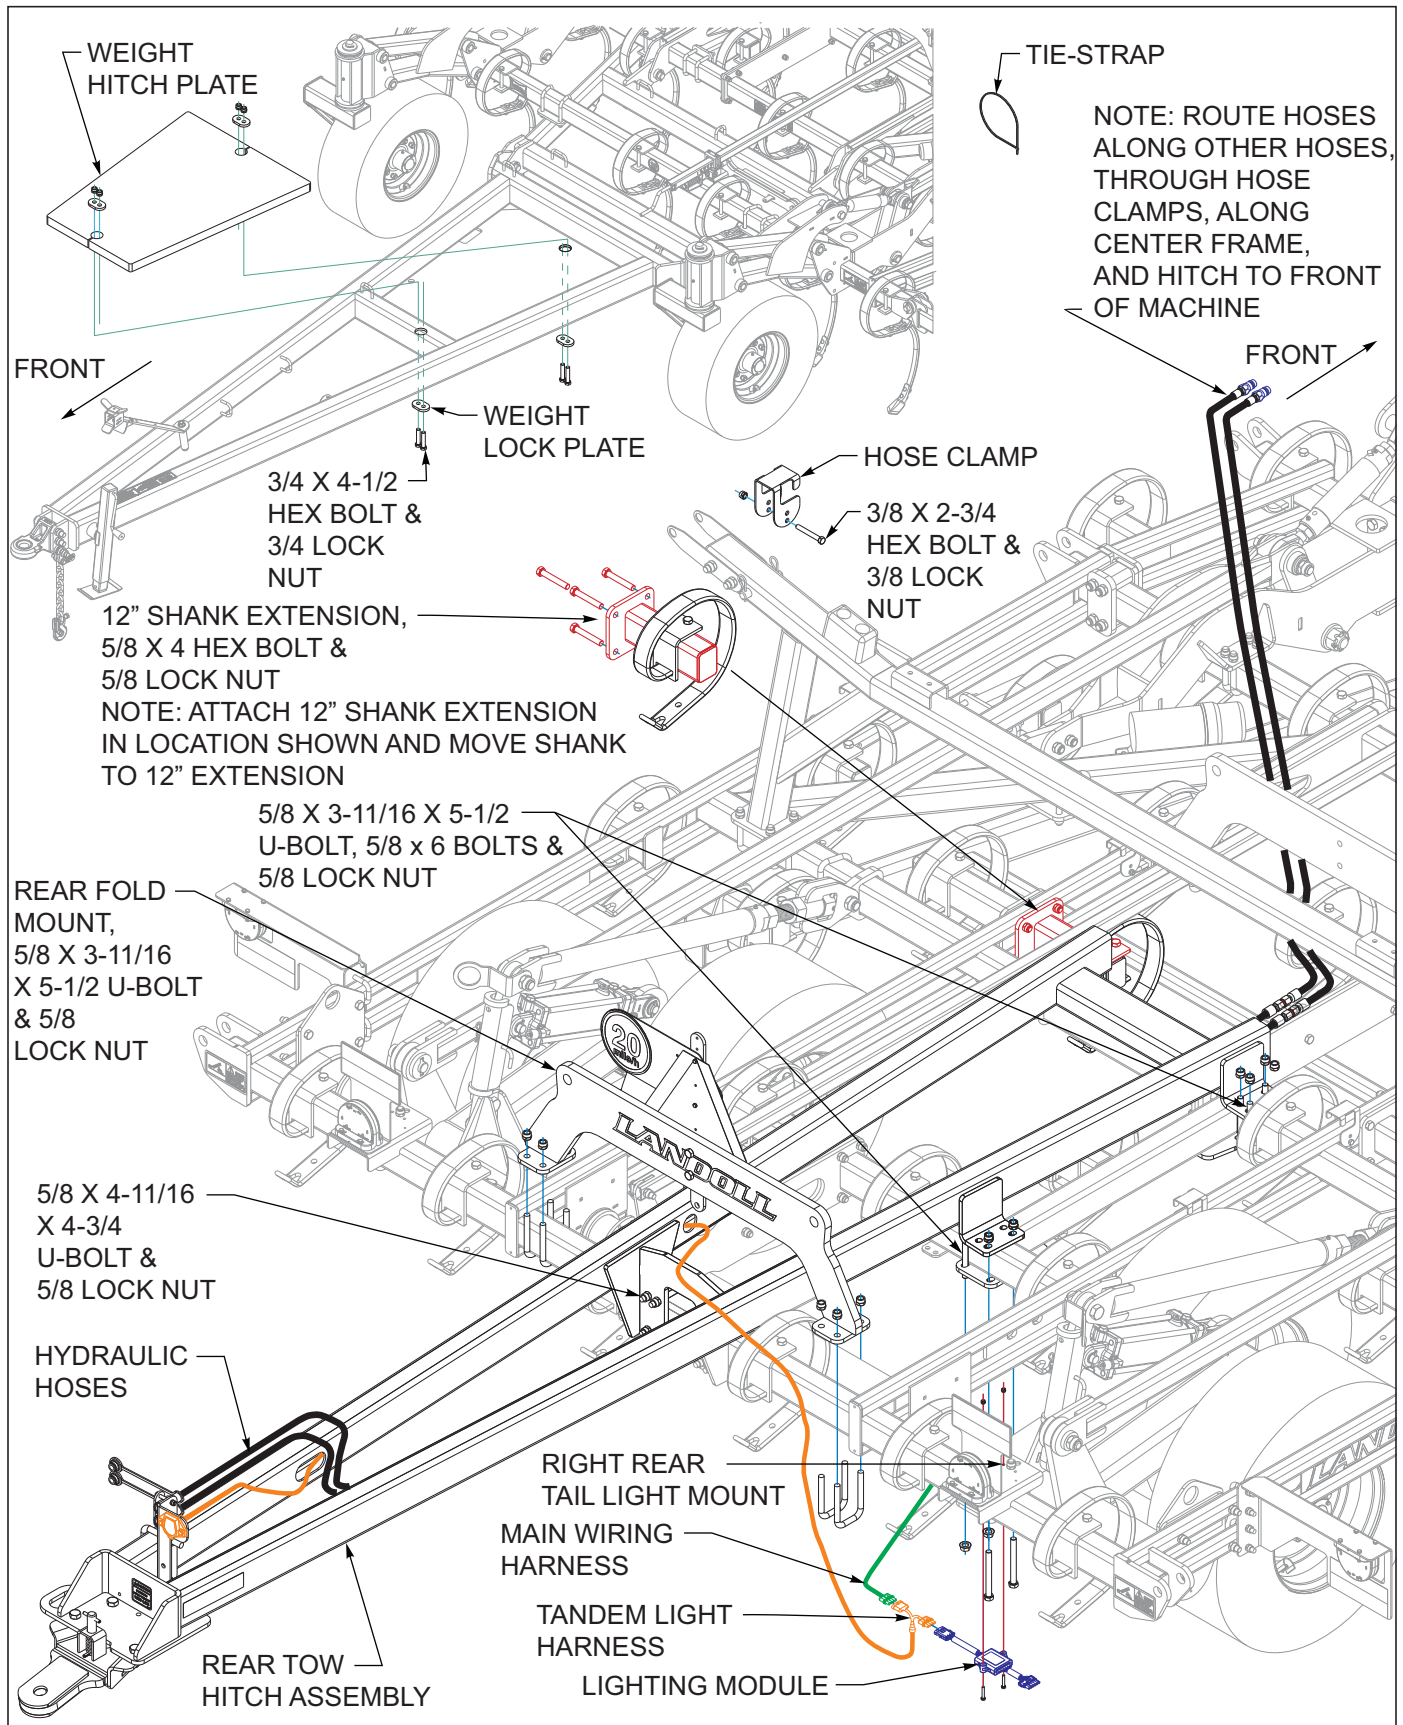
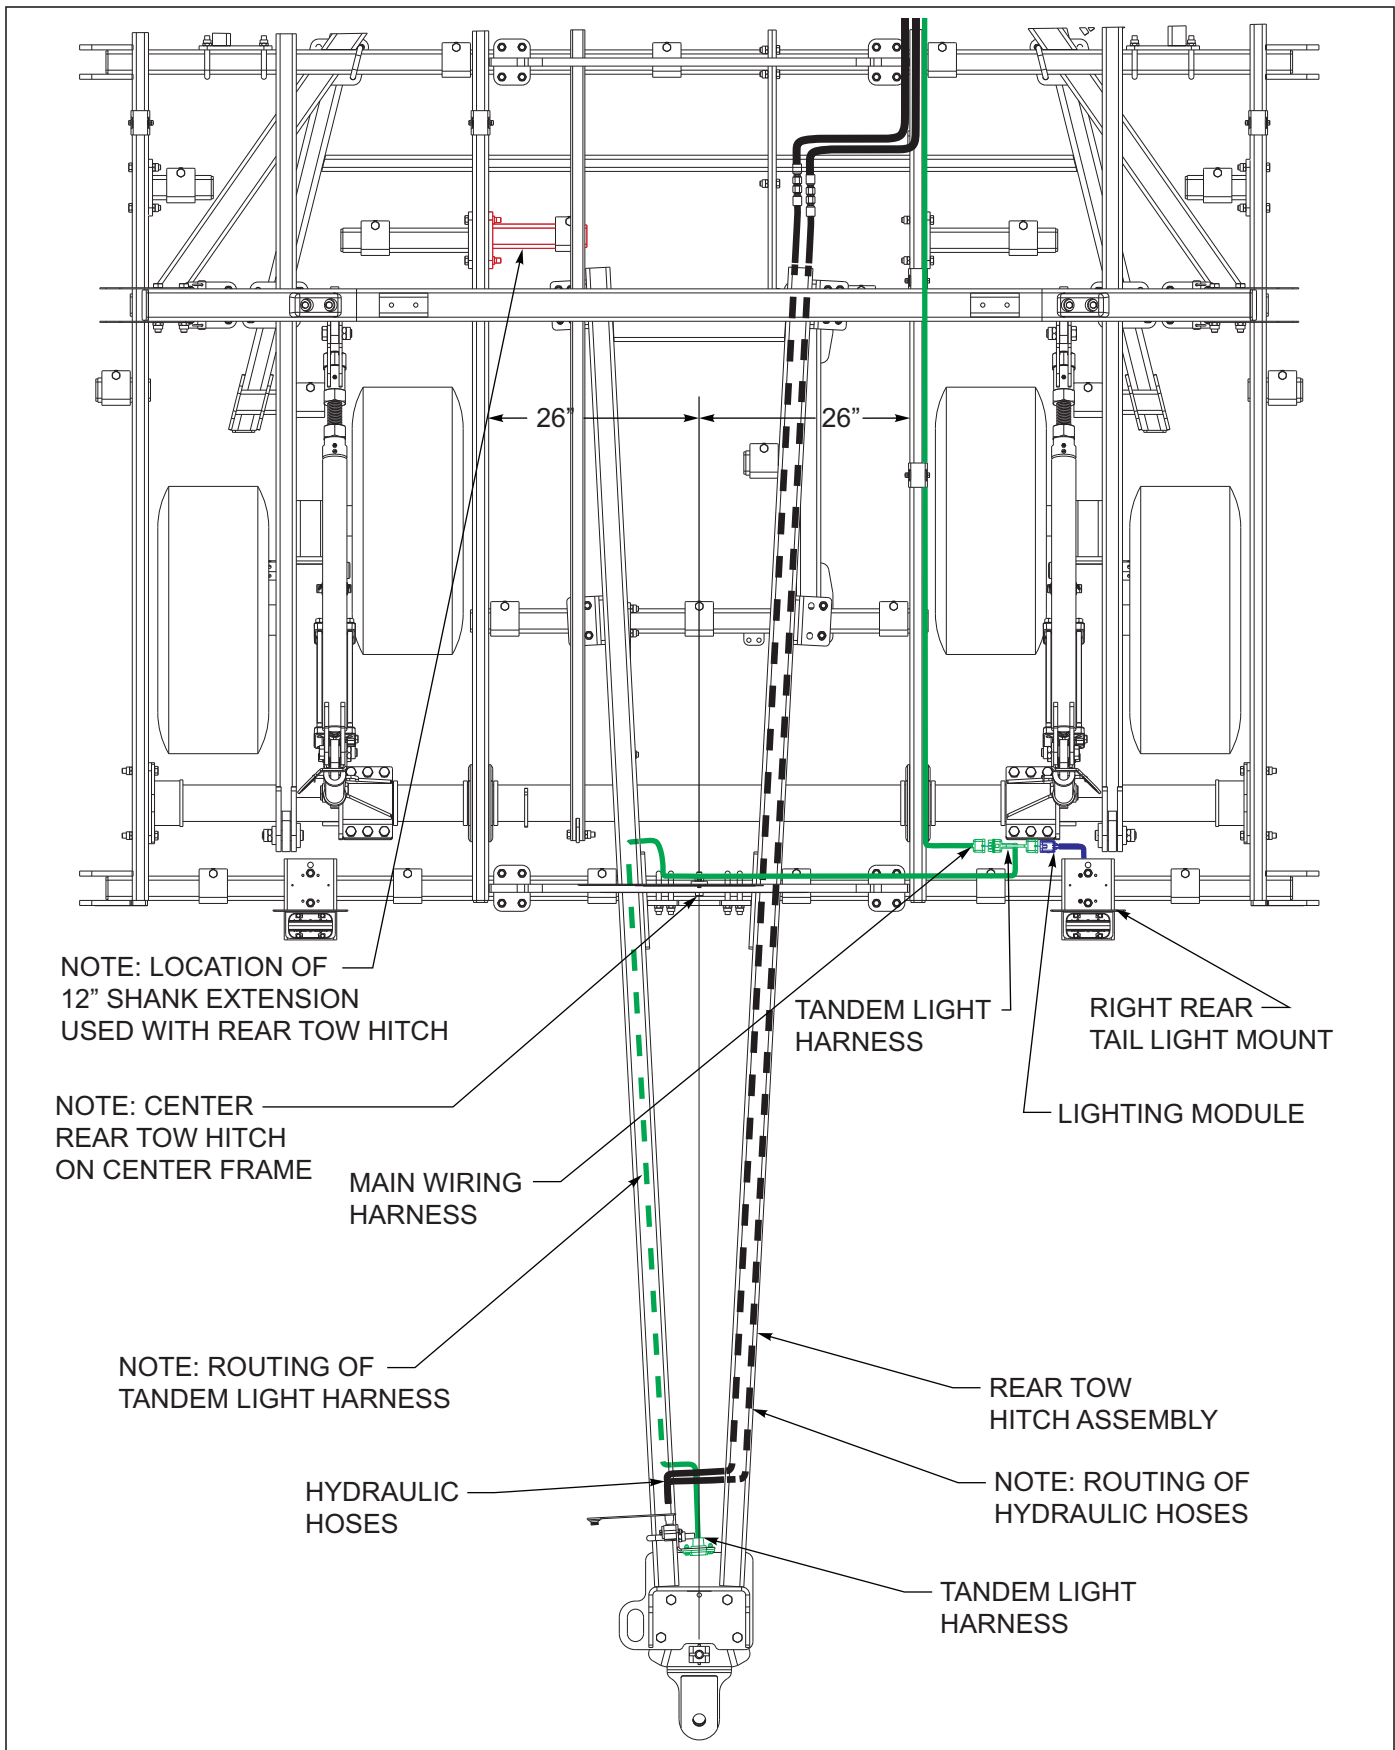

Figure 3-38: Rear Tow Hitch Installation
Figure 3-39: Rear Tow Hitch Layout
2. Install the weight hitch plate on top of the hitch and secure with weight lock plates, 3/4 x 4-1/2 hex bolts and 3/4 lock nuts *See Figures 3-38*.
9. Center the rear tow hitch assembly on center frame *See Figures 3-39*, tighten all u-bolts to secure hitch.
11. Route the tandem light harness connector across the rear frame bar to the right rear tail light. Unplug the existing four-pin main wiring harness from the lighting module. Connect the rear tow hitch harness between the lighting module and the main wiring harness *See Figures 3-38* and *See Figures 3-39* for proper hose and light harness routing.